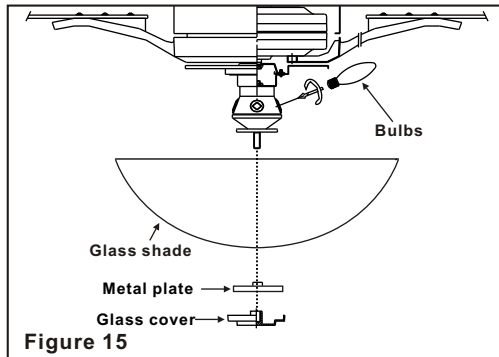

Figure 15
3. Raise the glass shade up against the light kit, Place the metal plate with rubber on the top over the stem and turn it clockwise until it locks up against the glass shade. Do not overtighten. (Fig. 15)